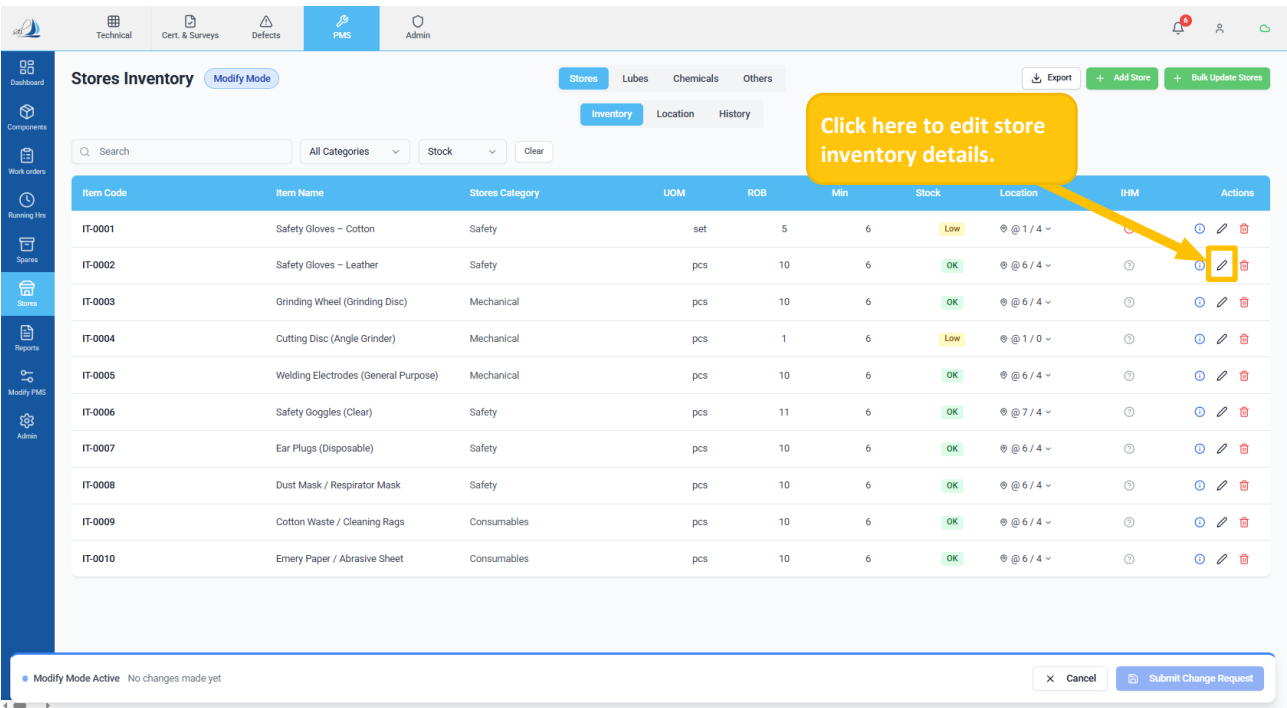

Figure 80
- The screen below appears after clicking the 'Stores' card. (Ref Figure 80)
- Click the 'Edit' icon to access the selected Store record. (Ref Figure 80)